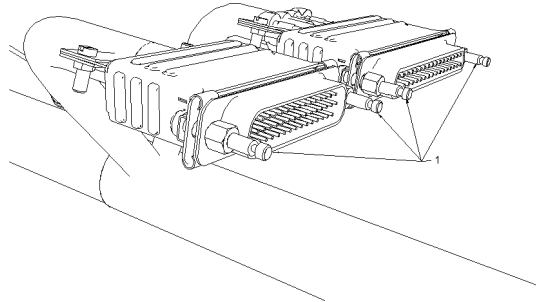

Figure 3
- (10) Remove and discard the attachment hardware (1, Figure 3) from the harness connectors at 39A10P01 and 39A10P02.